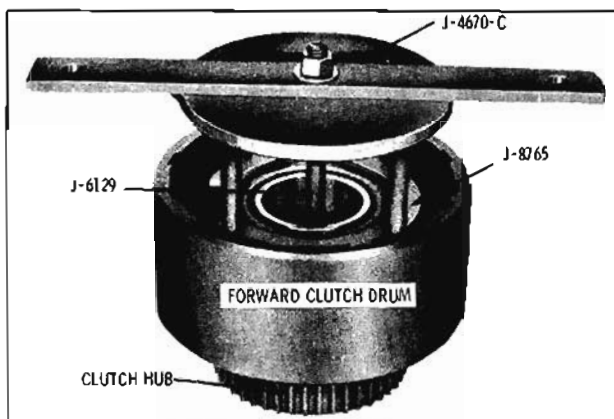

Fig. 6-352 Removing Snap Ring
7. Using Tools J-4670-C, J-8765, and J-6129 compress spring retainer and remove snap ring. Remove tools and component parts, being careful that spring retainer does not catch in snap ring groove. (Fig. 6-352)